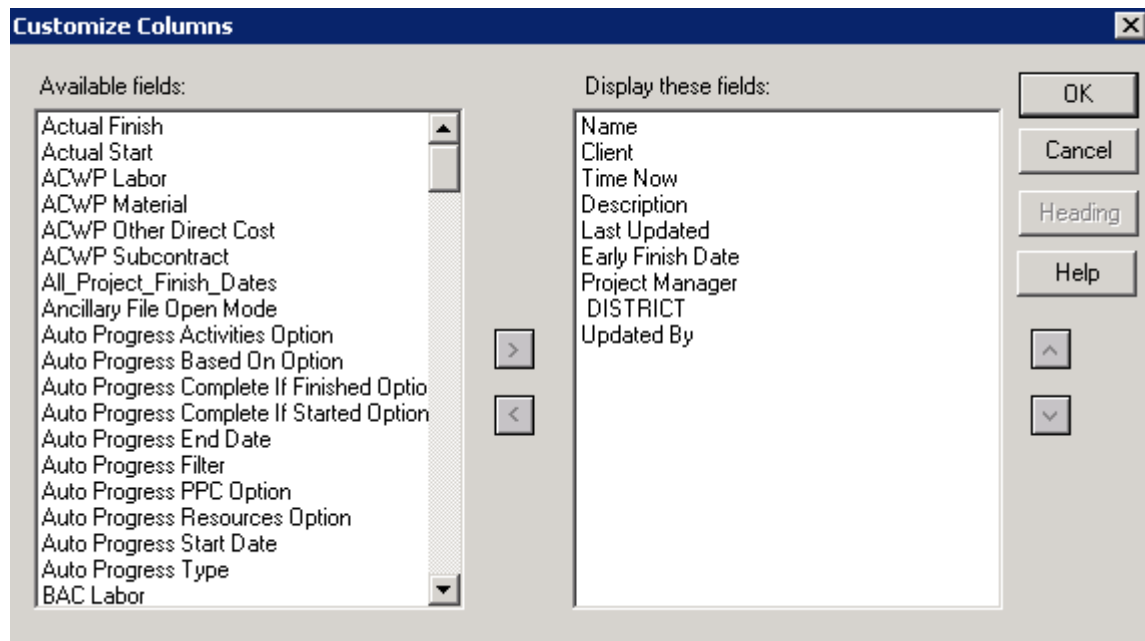

Figure 2.4 – Customize Columns
5. The Customize Columns Box will appear. If you want to add a column, choose a field from the left hand side and click the > button. If you want to remove a column, choose a field from the right hand side and click the < button. Once all the columns that you want to appear show up on the right hand side, click OK (See Figure 2.4).